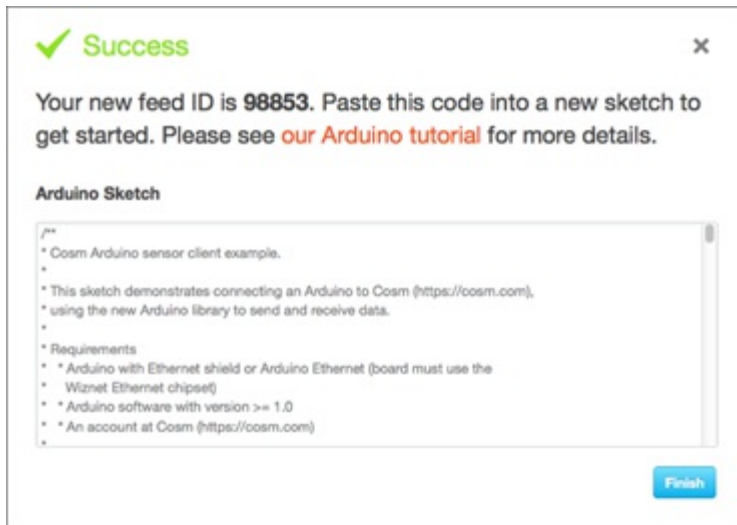

Figure 12-19: Configuring your device on Xively.
7. Configure the ID of your channel, as shown in Figure 12-19.
Your Arduino's Feed ID and API key are shown in the lower-right corner of the page (refer to Figure 12-19). You need these for your code. The API is very long, so you should cut and paste it into a blank document or directly into your code. After you start posting data, you'll be able to access graphs at the Feed URL shown at the top-right of the page.